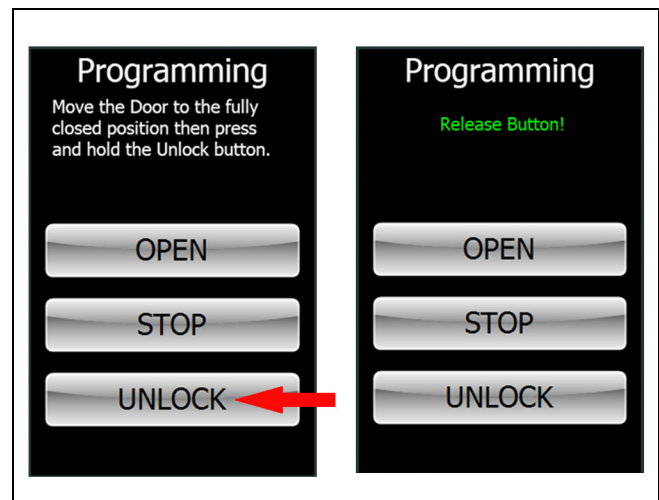

Figure 48
5. Move the door manually to the fully closed position. Press and hold the "UNLOCK" button until the touch screen shows "Release Button!" or red and blue lights blink rapidly (on non-touch screens). See Figure 48.